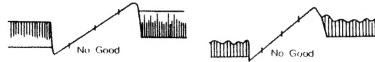

Figure 11
2. Inequality of noise (See figure 11) is no good.